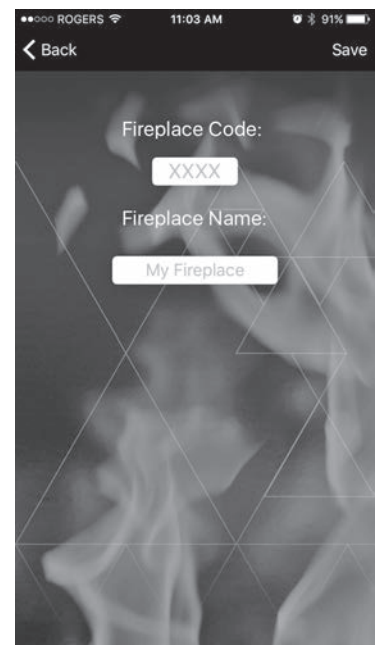

Figure 21: Add-edit program fields.
4. Enter the PIN number and a user defined description of the fireplace (Figure 21).